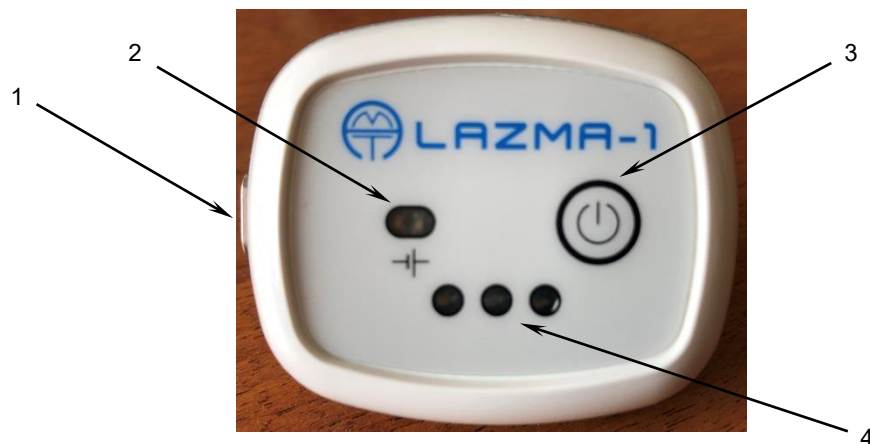

FIGURE 1: AMT LAZMA-1 FRONT SIDE
Figures 1 and 2 below shows the AMT LAZMA-1 and its notable features.
Prior the use please charge the internal battery by connecting the charger to. The charger is magnetically attached to the socket on the side panel of the device (Figure 1, pos. 1). In this case, the green LED starts flashing up indicating the charging in progress. When the green LED goes off it means that the internal battery is fully charged. With a fully charged battery, the sensor can serve 4 hours of continuous operation. The need for charging is indicated by a flashing yellow LED.
Successful connection to the Wi-Fi will result in a blue light activating on the device panel (figure 1, pos. 2 and pos. 4).